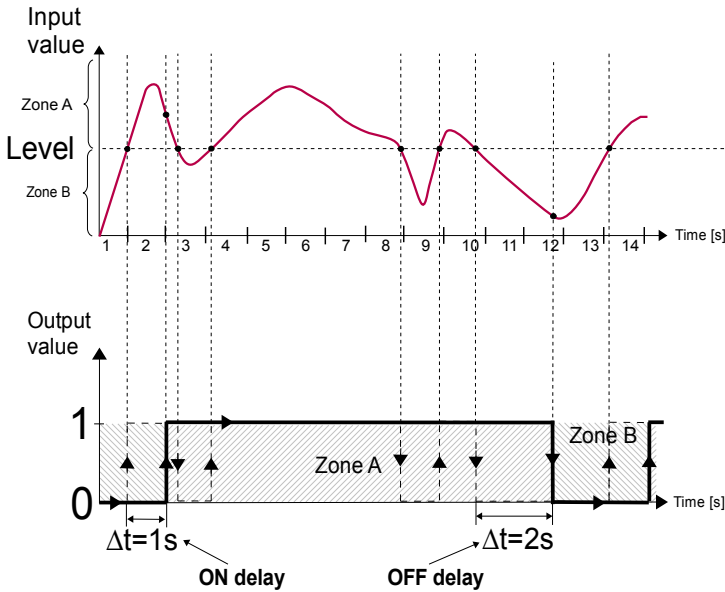

Fig. 7.89. Principle of relay output operation for sample timing settings:
- **ON delay** - this parameter allows to set the time that must pass from the time of exceeds **Level** value until the output switches from low to high state (see Fig. 7.89),
- **OFF delay** - this parameter allows the user to set the time that must pass from the time of exceeds **Level** value until the output switches from high to low state (see Fig. 7.89),